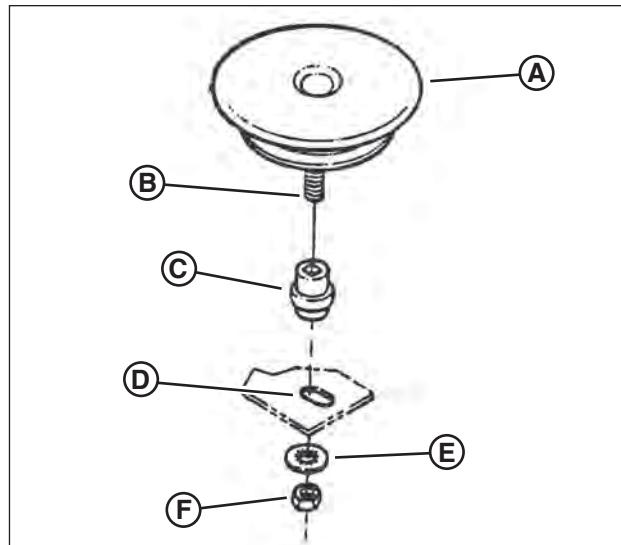

Figure 34: Removing the drive disc
5. Hold the slotted end of the drive disc bolt (**B**, **Figure 34**) with a screwdriver and remove the nut (**F**) and internal tooth lock washer (**E**).